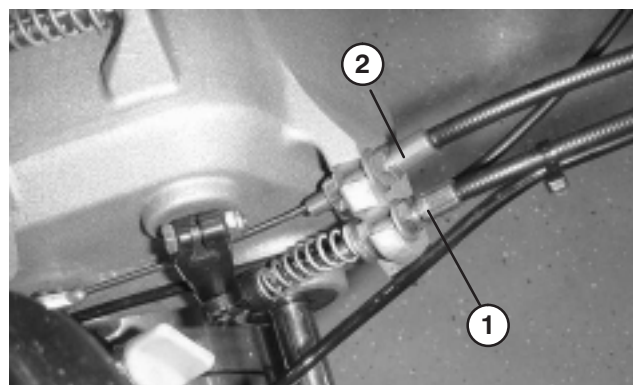

Figure 48
2. To increase cable tension, loosen front cable jam nut and tighten back cable jam nut (Fig. 48) until a force of 12–16 lb. is required to engage traction control. Force to be measured at control knob.
2. To increase cable tension, loosen front cable jam nut and tighten back cable jam nut (Fig. 48) until a force of 6–9 lb. is required to engage brake. Force to be measured at lever knob. Do not over adjust, or brake band may drag.